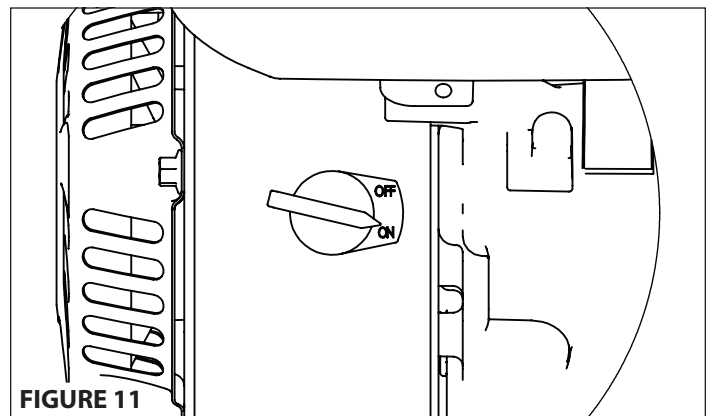

FIGURE 11
4. Turn the On/Off switch to the **ON** position. **SEE FIGURE 11**